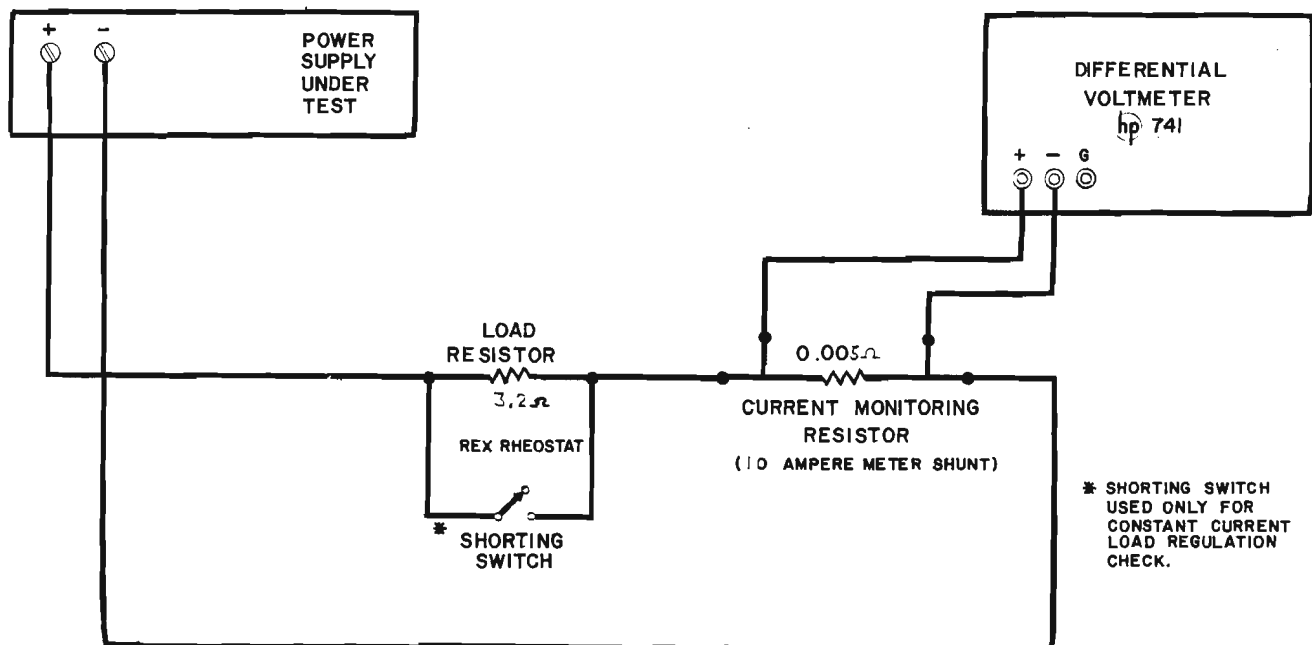

FIGURE 5-3. CONSTANT CURRENT TEST-SETUP
- a. Connect test setup shown in figure 5-3.
a. Connect test setup shown in figure 5-3.
b. Connect test setup shown in figure 5-3.